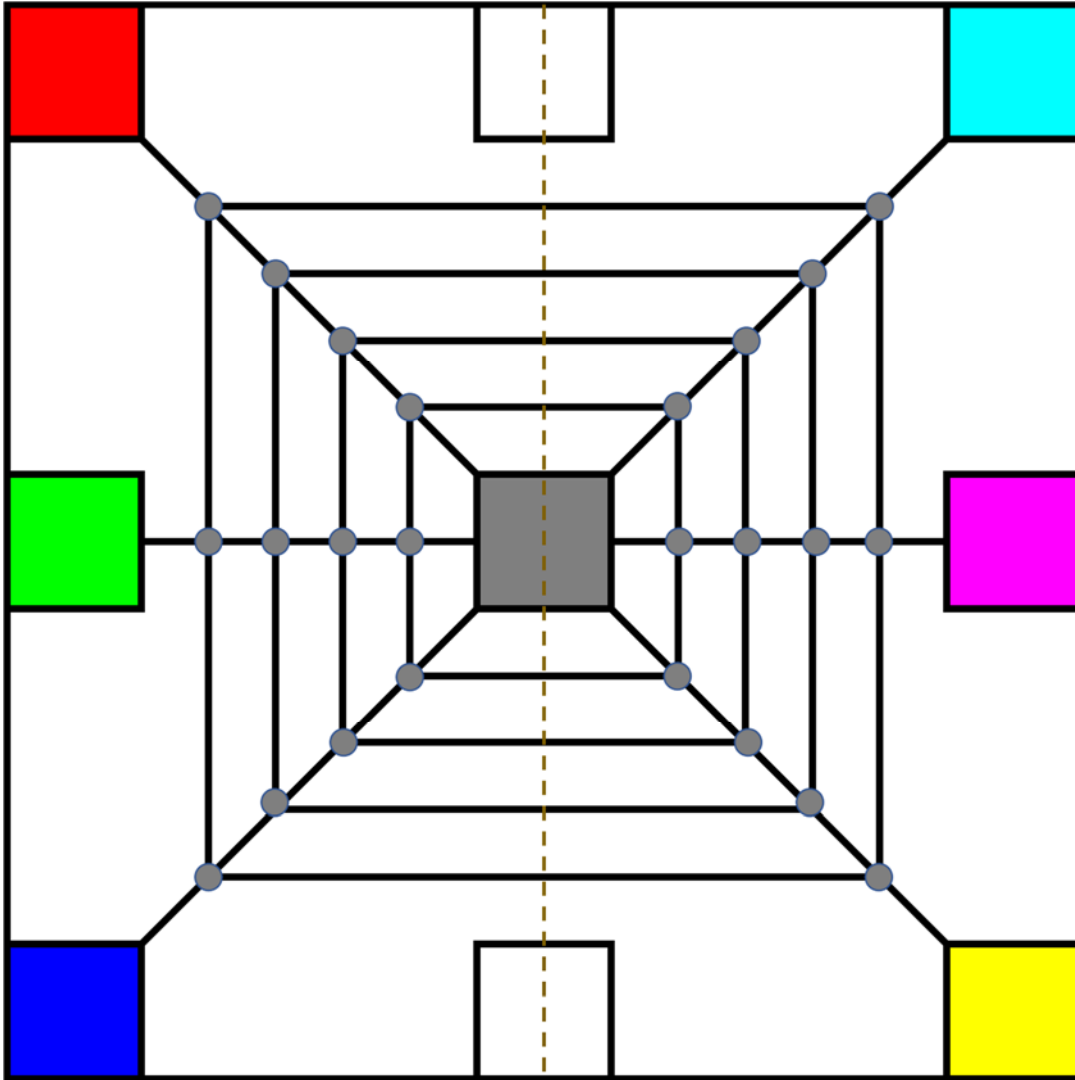

Figure 1: Playing Field Layout
- Figure 1: Playing Field Layout** 5
Specifications for the materials used in the construction of the competition fields are included in an appendix. The playing field, when assembled, will measure 8'x8'. The field will be made from two 4'x8' sheets of plywood. The playing surface will be painted as shown in Figure 1.
In Figure 1: